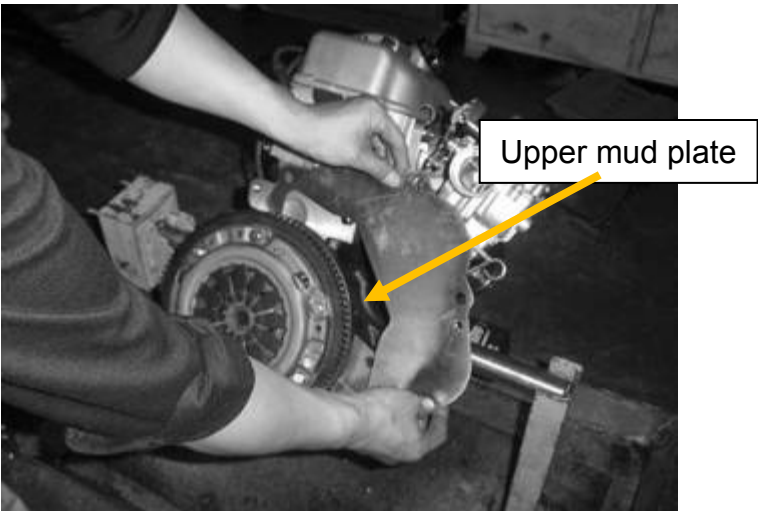

Figure 38
4. Remove upper mud plate (See Figure 38)